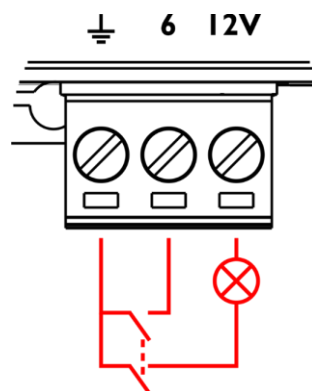

Fig. 14
03) Optionally, you can connect a 12 V device (e.g. a LED indicator) to the 6th GPIO Phoenix connector. For example, in Fig. 14, activating trigger 6 will also activate the connected 12 V device.